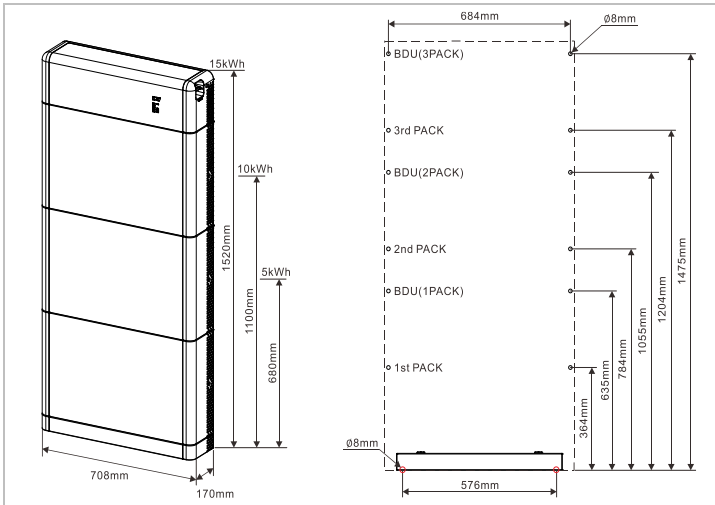

Figure 3-3 System installation dimensions diagram
- 3) Mark the holes for fixing the battery module and BDU with a marker according to the dimensions shown in Figure 3-3.